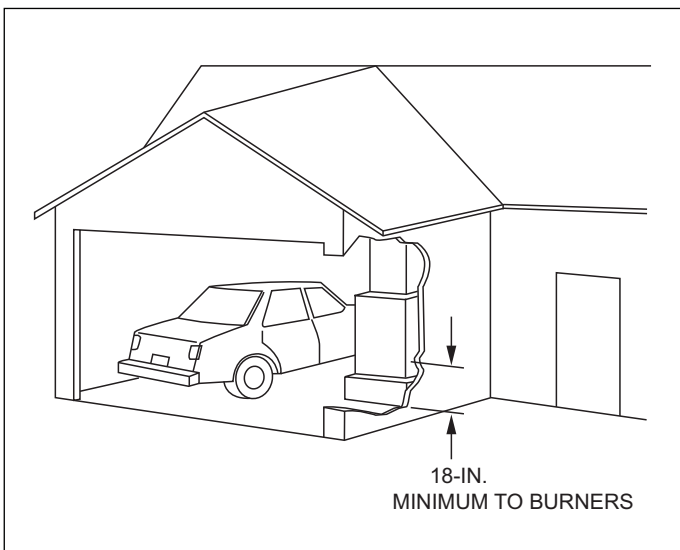

Figure 4 Installation in a garage
- ▶ When the furnace is installed in a residential garage, the burners and ignition sources must be located at least 18 inches above the floor. The furnace must be located or protected to avoid damage by vehicles. When the furnace is installed in a public garage, airplane hangar, or other building having a hazardous atmosphere, the furnace must be installed in accordance with the NFPA. (See Fig. 4).